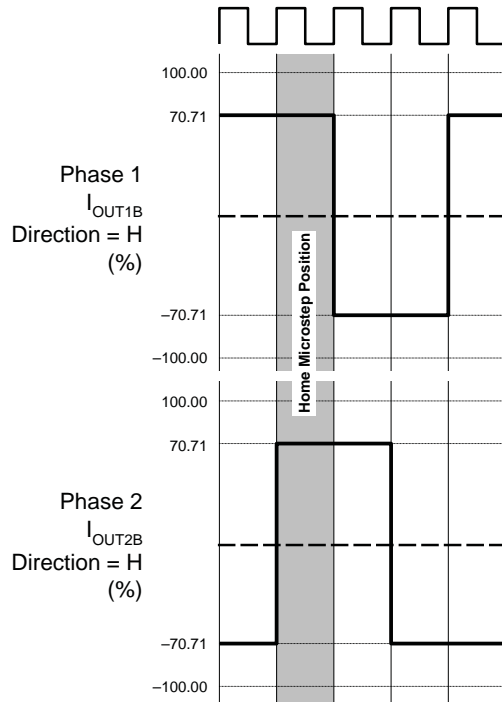

Figure 5. Full Step
**Home Microstep Position.** At power-up, or after a UVLO (undervoltage lockout) condition caused by low voltage on  $V_{DD}$ , the translator in the A3980 resets the motor to the Home microstep position. This corresponds to the 45° position, which is the step where both phase currents are +70%. Referring to table 3, for full-step mode this is step 1, for half-step this is step 2, for eighth-step this is step 5, and for sixteenth-step this is step 9. In table 3 and figures 5 through 8, the Home microstep position is indicated.
**Mixed Decay Operation.** Depending on the step sequence, if the voltage on the PFD pin is between  $0.6 \times V_{DD}$  and  $0.21 \times V_{DD}$ , the full-bridge can operate in mixed decay mode, as shown in figures 5 through 8. As the trip point is reached, the A3980 goes into fast decay mode until the voltage on the RC pin decays to the same level as the voltage applied to the PFD pin. The duration of time that the bridge operates in fast decay mode,  $t_{FD}$  (ns), is estimated by